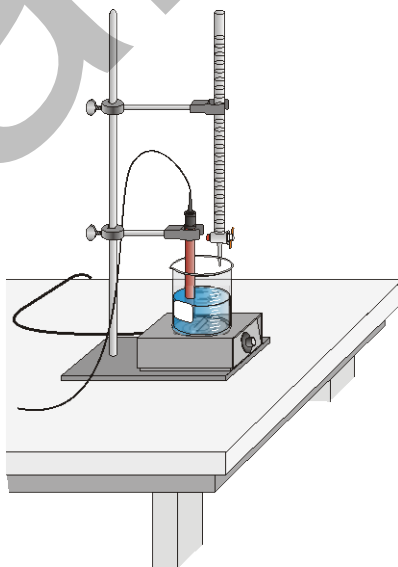

Figure 1
5. Set up a ring stand, buret clamp, and 50.0 mL buret to conduct the titration (see Figure 1). Rinse and fill the buret with 0.100 M NaOH solution. **Note:** Record the concentration of the NaOH solution in your data table. **CAUTION:** *Sodium hydroxide solution is caustic. Avoid spilling it on your skin or clothing.*
6. Use a utility clamp to suspend the pH Sensor on the ring stand, as shown in Figure 1. Position the pH Sensor so that its tip is immersed in the HCl solution but is not struck by the stirring bar. Gently stir the beaker of acid solution.